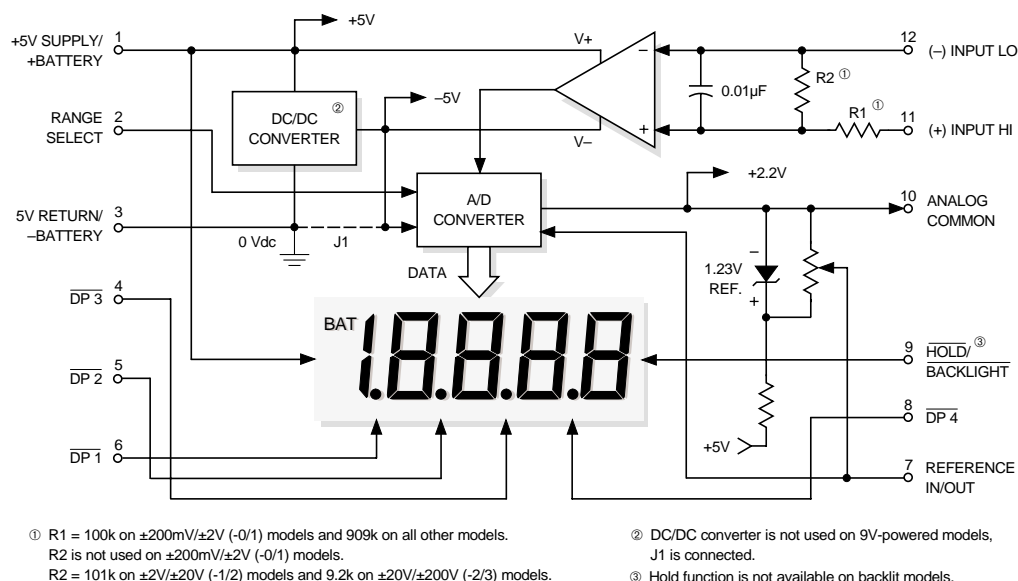

Figure 1. DMS-40LCD Series Simplified Schematic
- ① Each model in the DMS-40LCD Series offers two input voltage ranges that are user-selectable via pin strapping. 5V-powered models can be used to perform either differential or single-ended measurements. 9V-powered models can only be used for differential measurements.
- ② Applies for transient or continuous overvoltages applied to (+) INPUT HI (pin 11) with (-) INPUT LO (pin 12) properly connected. Pin 12 is not overvoltage protected (see Figure 1). Voltages applied to pin 12 should not exceed the supply voltage.
- ③ Listed spec applies to 5V-powered models only. For 9V-powered models, both (-) INPUT LO (pin 12) and (+) INPUT HIGH (pin 11) must always be at least 1.5V above -BATTERY (pin 3) and at least 1.5V below +BATTERY (pin 1).
- ④ See Technical Notes.